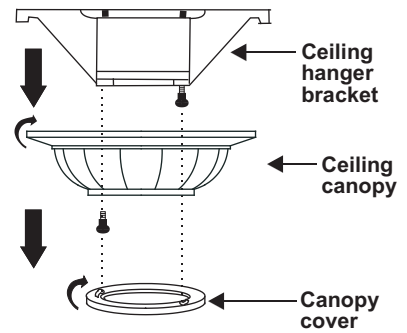

Figure 5
Step 1. Remove the decorative canopy bottom cover from the canopy by turning the cover counter clockwise. (Fig. 5)
Step 2. Remove the mounting bracket from the canopy by removing the 1 of 2 screws from the bottom of the mounting bracket and loosening the other one a half turn from the screw head. Next, turn the canopy counter clockwise to removing the mounting bracket from the canopy. (Fig. 5)